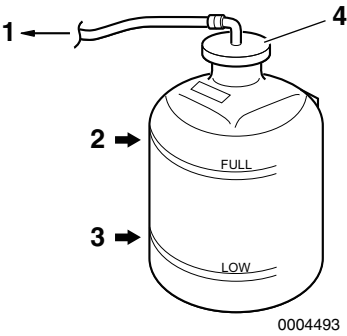

Figure 12
6. Check the coolant level in the reservoir. The level should be at the FULL mark (Figure 12, (2)).
- 7. Remove reservoir cap (Figure 12, (4)) to add coolant if necessary. Do not add water.
9. Check the rubber hose (**Figure 12, (1)**) connecting the reservoir to the coolant tank / heat exchanger. Replace if damaged.